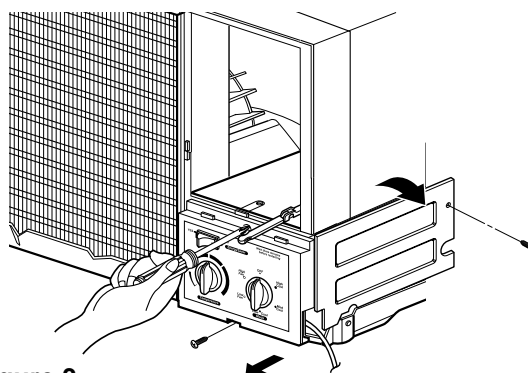

Figure 3
8. Remove the 2 screws which fasten the control box. (See Figure 3)
10. Re-install the components by referring to the removal procedure, above. (See Figure 3) (Refer to the circuit diagram found on page 24 in this manual or on the control box.)